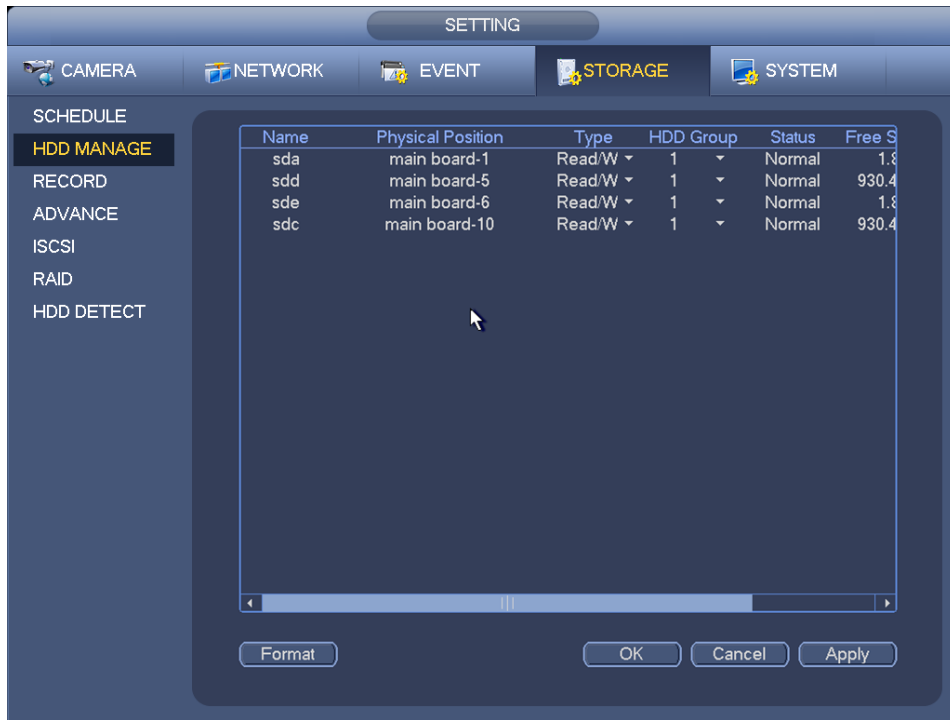

Figure 3-169
- From Main menu->Setting->Storage->HDD Manager, you can go to HDD management interface. See Figure 3-169.